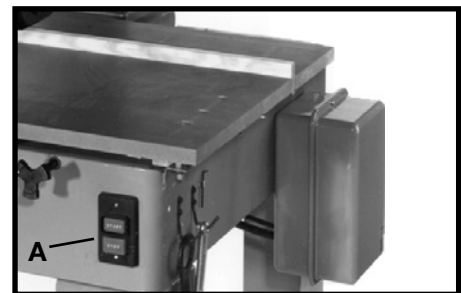

Fig. 30A
1. The on/off switch (A) Fig. 30A is located on the front of the saw. To turn the machine on, push the "START" button.